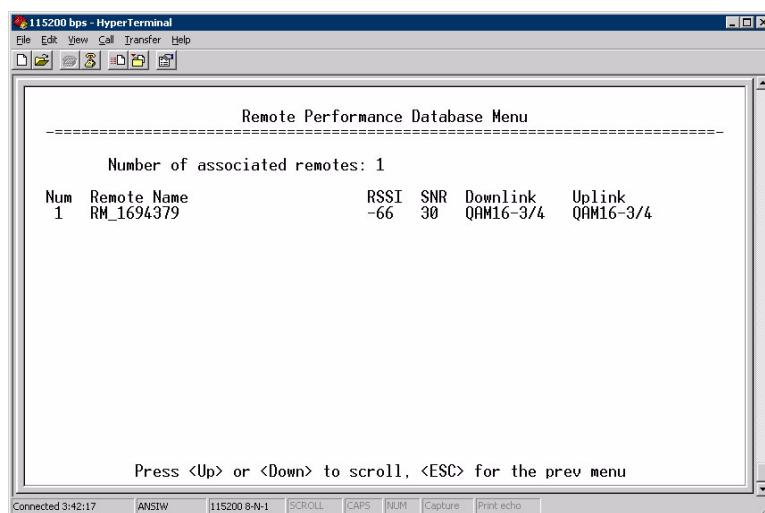

Figure 3-94. Remote Performance Database Menu
- **Remote Performance Database** (AP Only)—Displays a submenu where associated Remote performance data is listed in table form. Remotes are presented according to their number, MAC address, RSSI, SNR, modulation type, and FEC total. (See Figure 3-94 on Page 121.)